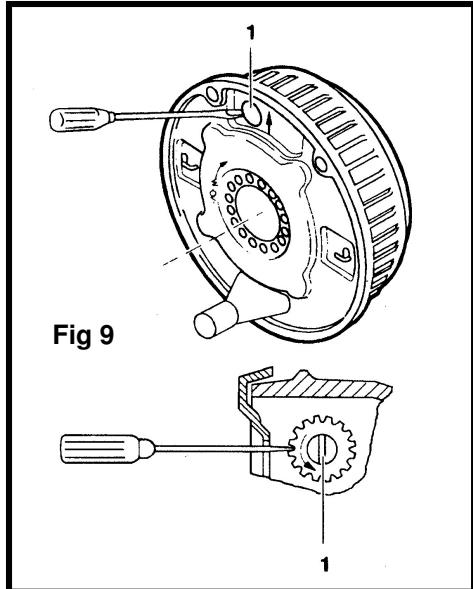

Fig 9
- Only ever set or adjust the wheel brake by means of the adjuster screw (1)(Fig 9). Adjust in the direction of the arrow, and release against the direction of the arrow.